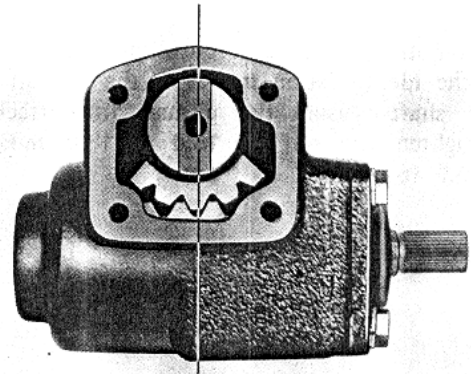

Fig. 10-12 Position of sector gear and worm gear
5. Insert the sector shaft into the gear housing, being careful not to damage the oil seal, and ensuring that the center of the sector gear is in alignment with the center of the worm gear as shown in Fig. 10-12.